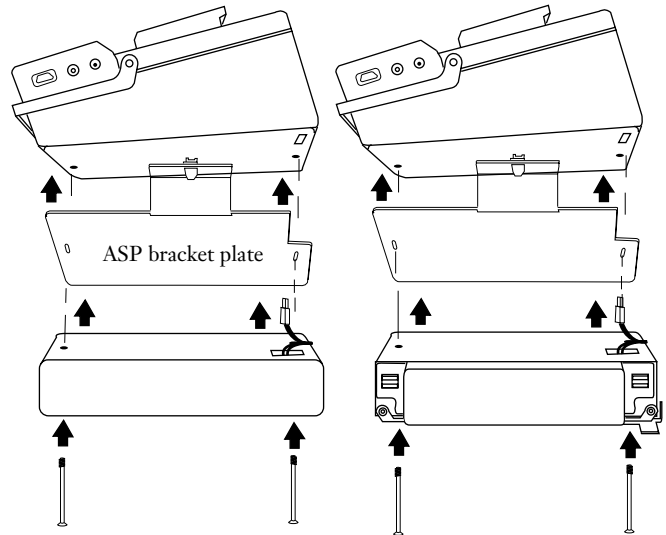

Figure 15
- e) Secure the the battery pack and adapter plate to the bottom of the splicer with the two long slotted screws (Figures 15 and 16).